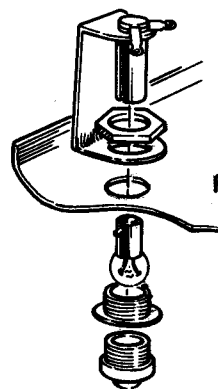

FIGURE 2A
- (✓) Refer to Figure 2A and mount the pilot lamp socket at PP. Insert the 6.3V bulb in this socket.